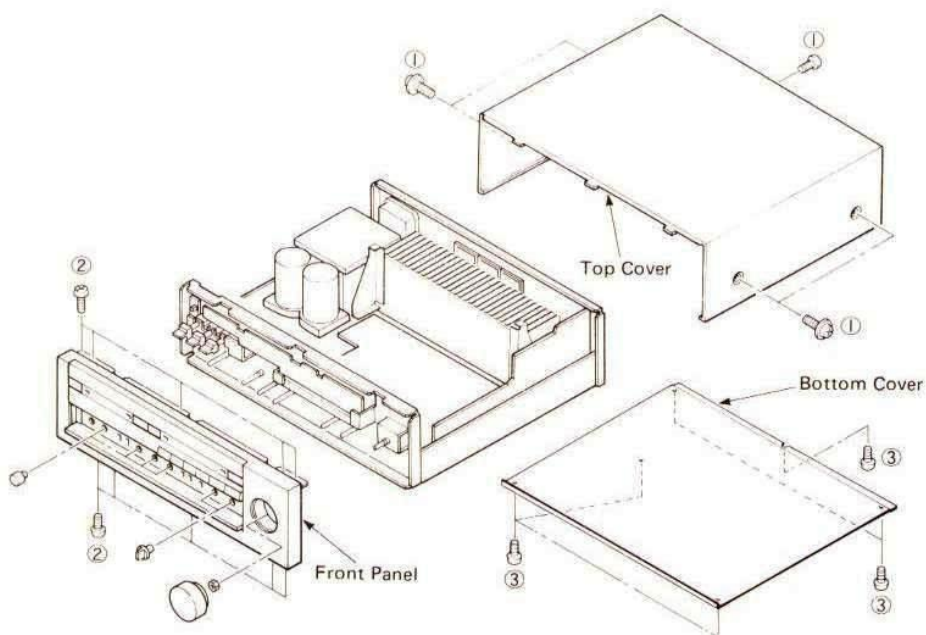

Fig. 1
Remove 5 screws (①) in Fig. 1, and slide the Top Cover back.
Remove 6 screws (②) in Fig. 1, and pull the Front Panel forward.
Remove 6 screws (③) in Fig. 1.